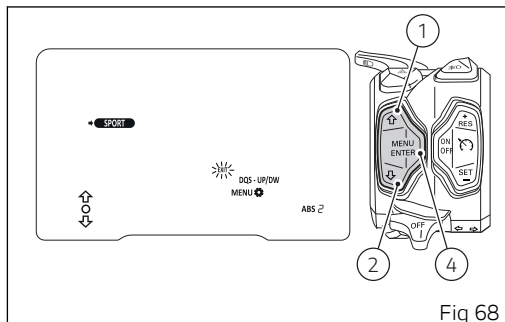

Fig 68
The instrument panel displays the new set level and "EXIT" flashing (Fig 68). Now press button (4) to go back to previous display mode.